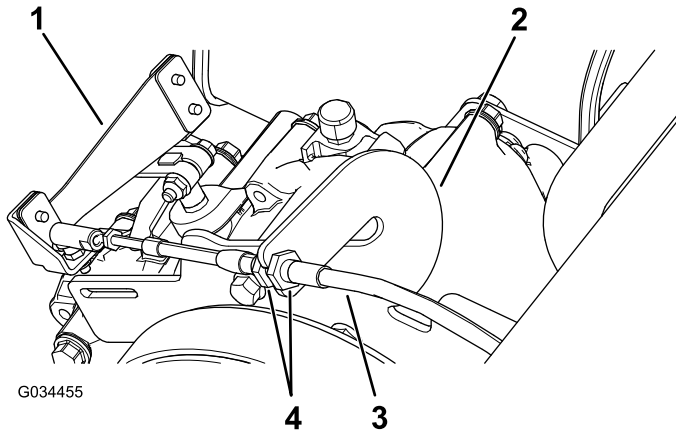

Figure 63
1. Loosen the jam nuts on the gear-shift cable and adjust them as necessary (Figure 63).
2. Test the gear-shift position by rotating the gear-shift selector to the 3 different positions and check to see if the shift lever (Figure 63) shifts properly when shifting the gears; refer to Checking the Neutral Gear-Shift Position \(page 53\).